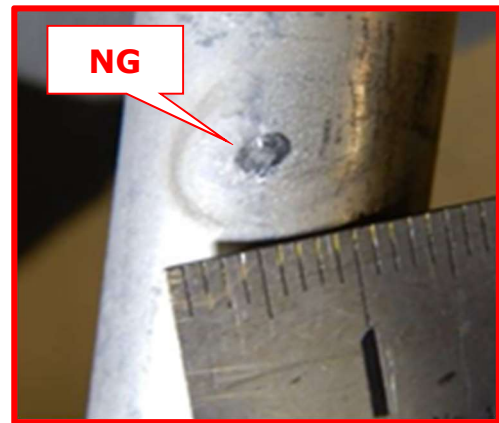

Figure 9
- If brake tube has any wear (Figure 9 & 10), move to **Step 8** for replacement
Note: Do not remove the brake tube. Inspect the brake tube while the part is in the vehicle. Figure 9 was taken with the part out of the vehicle as a reference only.